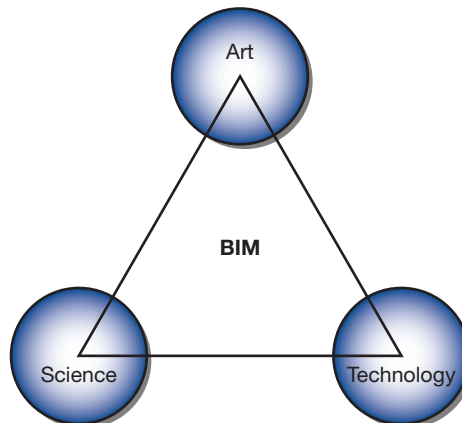

Figure 3.7 BIM, like architecture and construction, is a product of competing cultures.
**JH:** If I were advising them, I would tell them as part of the advisory board to conduct an incredibly technical and detailed background check of every person who's going to be on this team. A complete due diligence: all the way back to what they were doing in college. Find out from other projects they've done, other owners they've worked with, other developers and architects they've worked with, how many suits they've had, what their story is. If there's a red herring or a red flag, I'd want to be all over that initially. Would they be able to work together? If everyone sees it as a benefit to everyone involved, if it's a requirement for my getting the job, then I'll have to weigh it against other projects I may have going at the time and the market outlook. It seems like less of a headache if I can make it easier on myself and sign a contract that says this is what I'm responsible for, the heck with the rest of you. On paper, it looks fantastic. Get everybody to sit at the same table, hammer out all the details, so we can avoid some of the hassles that normally arrive later. I see tremendous advantages for being able to do it, if everybody trusts everybody at the table; you can save yourself a lot of trouble. If I'm a developer, I'm thinking, hey—I can save a lot of money. These guys are going to save me a lot of money and get the project done on time, done in the way I want them to. (See Figure 3.7.)